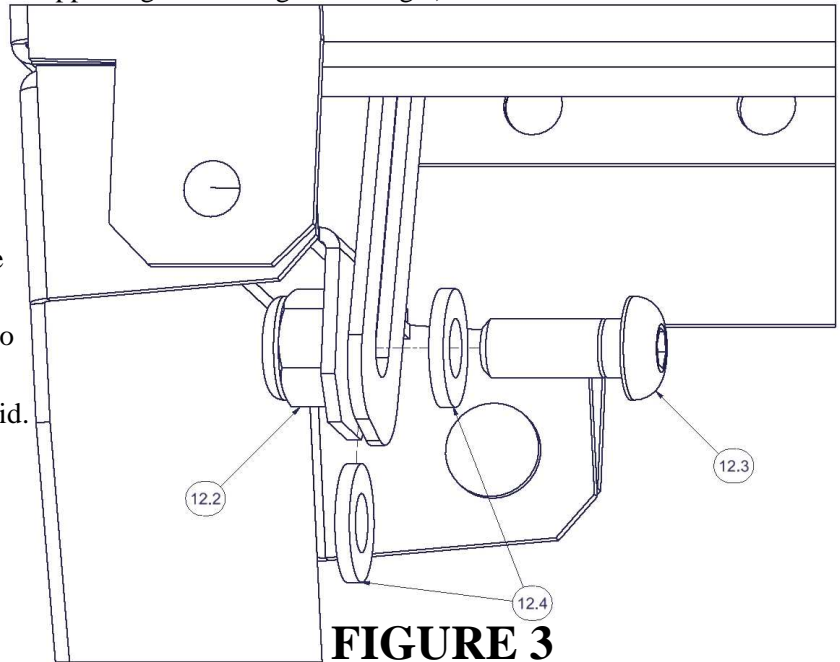

FIGURE 3
- Assemble the lid support hardware, as shown in Figure 3. Tighten the hardware in small increments so that the lid remains supported as you require (usually self-supporting at a 45 degree lid angle).
NOTE: Second nylon washer (#12.4 shown below assembly in Figure 3) slips between moving slotted part, and stationary body.